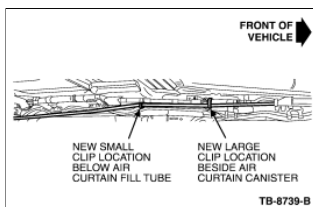

Figure 1 - Article 07-3-6
2. At the first hanger clip location add new large C-clip. This clip will attach to the air curtain canister, 10.5" (267 mm) back from rear moon roof exit spout, so that drain tube is beside it. Cut off excess strap. (Figure 1)
3. Add new small tie strap C-clip to drain tube. This clip will attach to the air curtain fill tube, just below the A/C Duct (if equipped) and 20.7" (527 mm) back from rear moon roof exit spout. The drain tube should be pulled taut and attached close to the forward bend of the air curtain fill tube. Drain tube must position just below the air curtain fill tube at this position. (Figure 1)